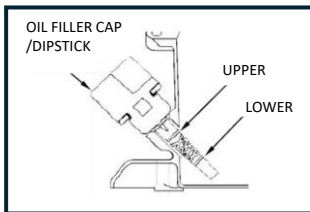

FIG 10A
- Check the engine oil level with the engine turned off and the vehicle positioned on a level surface. See Figures 10A, 10B, and 10C.